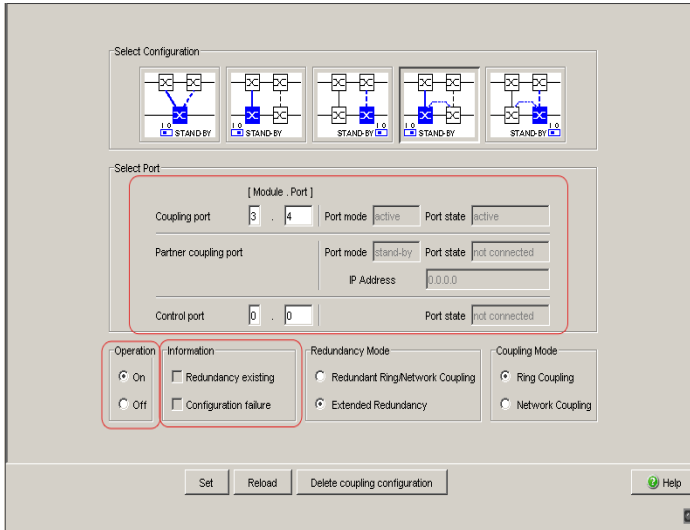

Figure 35: Selecting the port and enabling/disabling operation
- Select the coupling port (see figure 35), (see table 13).
- Select the control port (see figure 35), (see table 13).
- Activate the function in the “Operation” frame (see figure 35).
- The displays in the “Select port” frame mean (see figure 35):
The displays in the “Information” frame mean (see figure 35)
- Activate the function in the "Operation" frame (see figure 35).
The displays in the “Select port” frame mean (see figure 35):
The displays in the “Information” frame mean (see figure 35):